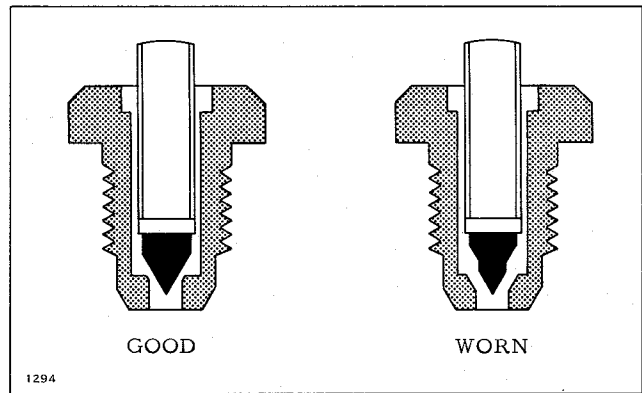

Figure 3-16. Needle Valve Seat Condition
d. Check the needle valve seats with a magnifying glass. If seat is nicked, scratched, or worn out-of-round, it will not give satisfactory service. See Figure 3-16. The valve seats are matched with the needles; if the seat or the needle is damaged, both